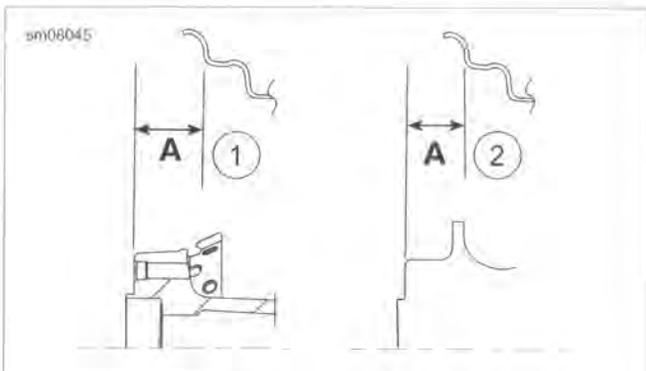

Figure 2-28. Laced Wheel Hub Offset Dimension
4. See Figure 2-28. Measure the distance from the straightedge to the location shown, based on rim design, to determine distance A. Refer to Table 2-11.